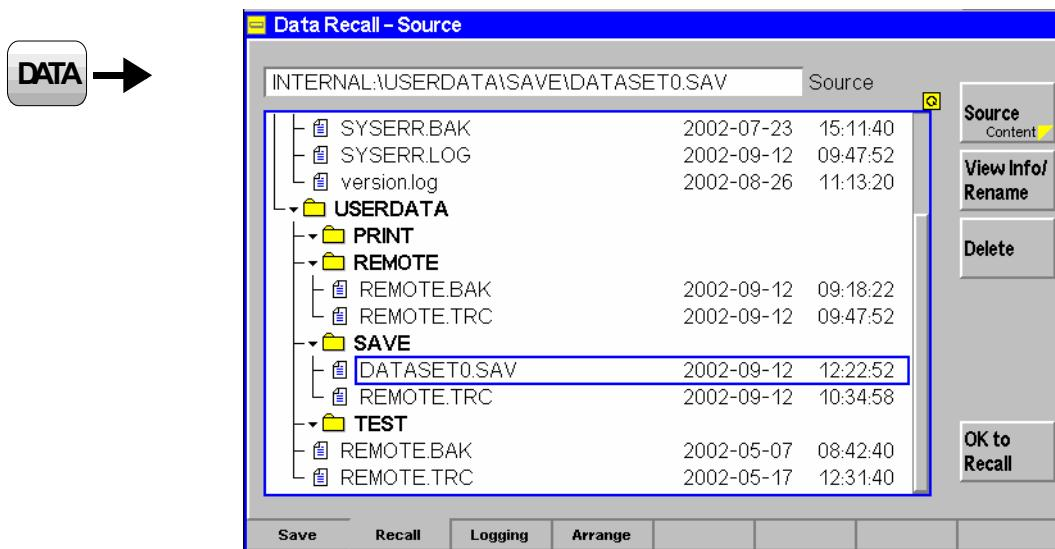

Fig. 4-16 Data – Recall menu
*Source/Content* toggles between the directory view (see Fig. 4-16 above) and the overview of function groups and test modes contained in a configuration file (configuration tree); see Dir. View/Content softkey on p. 4.38.